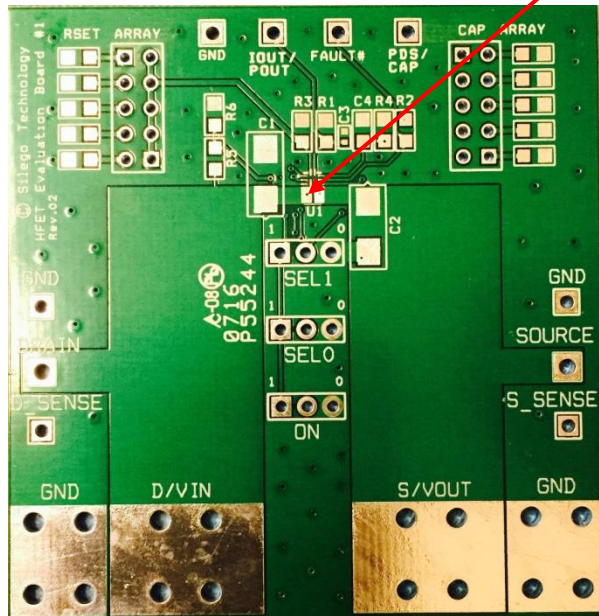
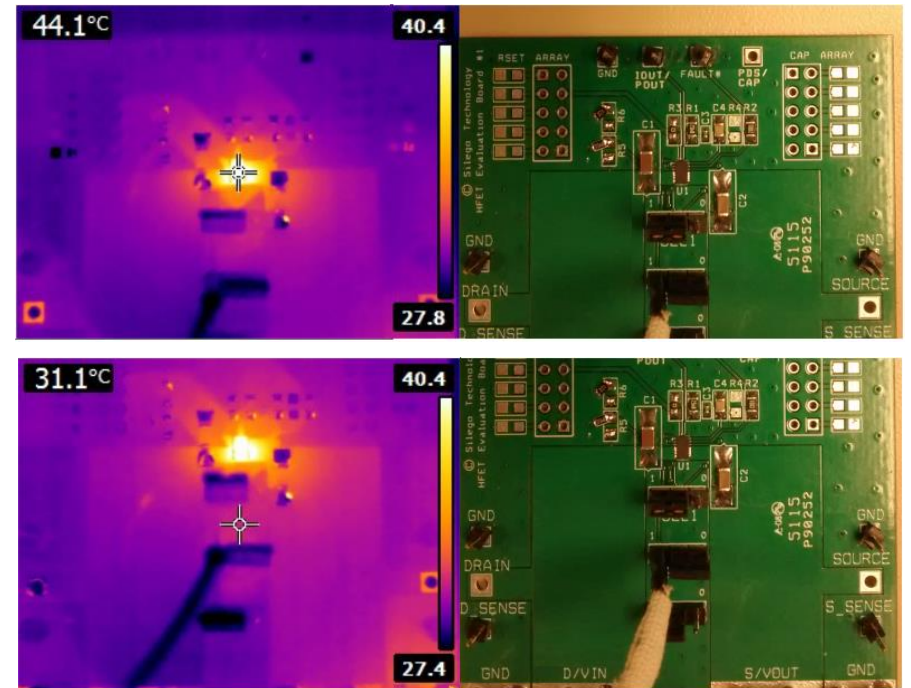

Figure 3. SLG59H1007V Evaluation Test Board
Figure 6. Thermal distribution for VIN = 20V @ 4.5A after 2 min power up
- 2.2. The VIN and VOUT pins carry significant current. Please note how the VIN and VOUT pads are placed directly on the power planes in Figure 3, which minimizes the RDS(ON) associated with long, narrow traces. The VIN and VOUT pins dissipate most of the heat generated during high-load current condition. The layout shown in Figure 3 is illustrating a proper solution for heat to transfer as efficiently as possible out of the device. Thermal distribution on the board with such solution is illustrated in Figure 6.